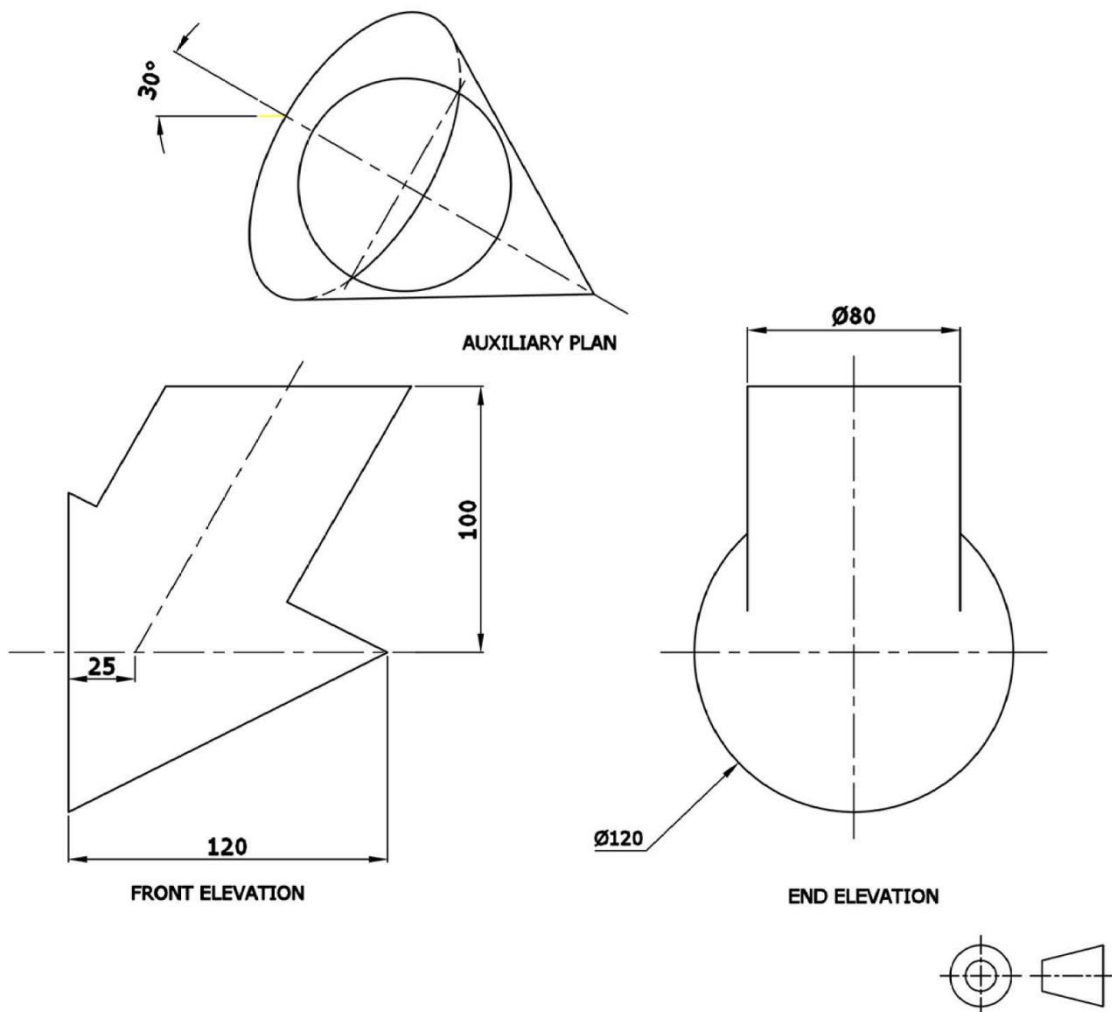

Figure 4b
- a) Copy, full size, the **THREE** given views as shown in Figure 4b. (3)
- b) Construct the curve of intersection between the two geometrical figures. (7)
- c) Present neatly the curve of intersection on the front view and the plan. Include hidden detail. (3)